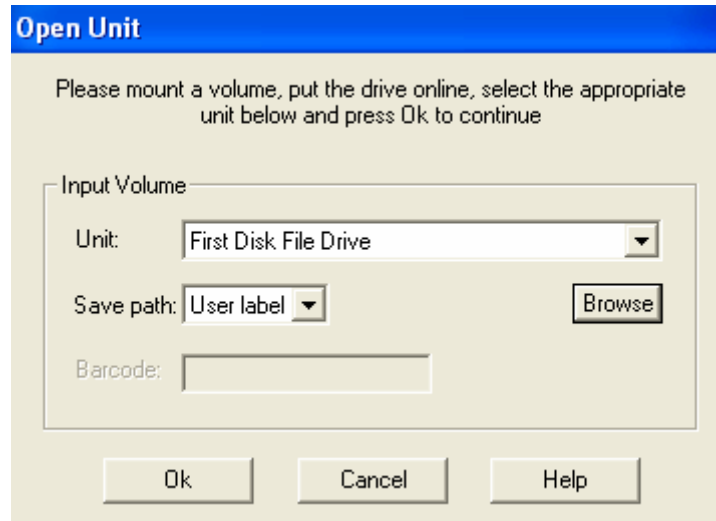

Figure 84: Open Unit Dialog Box/Input for Tape Merge
1. Allocate (open) input unit: To allocate an unallocated unit, press the button in the unit column that is on the row of the unit to be allocated under the Input Block. APS will present the open unit dialog box to allow the user to select a tape unit and then allocate the unit. The dialog box is shown in Figure 84: Open Unit Dialog Box/Input for Tape Merge.